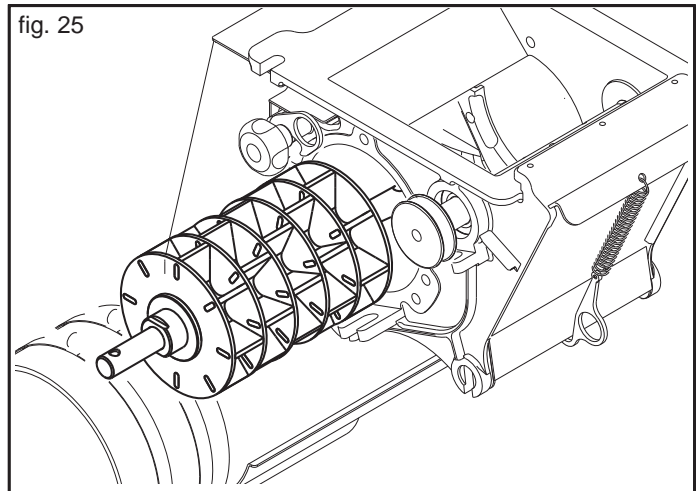

fig. 25
- 2) Extract the seeding roller (Fig. 25) as shown and described previously (3.4.1).